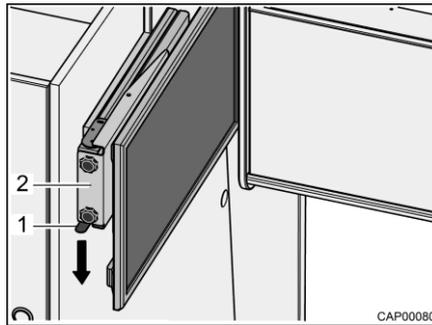

Fig. 53 Pull-out with flat screen
- Press catch spring (Fig. 53,1) downwards and pull pull-out (Fig. 53,2) with flat screen out horizontally towards the centre of the vehicle.
- Push the pull-out (Fig. 53,2) with flat screen horizontally as far as it will go. The catch spring (Fig. 53,1) engages audibly.